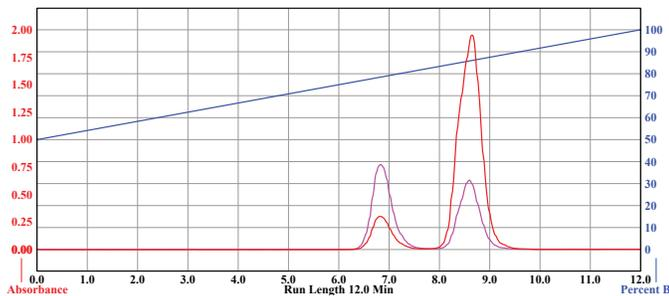

Figure 2: Universal Verification Chromatogram for 275 g C18 column with MeOH/Water.
8. When the system finishes the run, review the resulting 214 nm chromatogram which should meet the following criteria (refer to Figure 2):